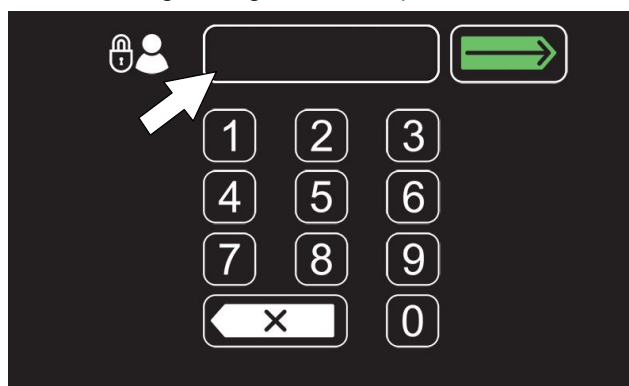

FIG. 189
6. Now at machine start up, the login screen will display (Figure 189). The user will need to enter their assigned login code to operator machine.